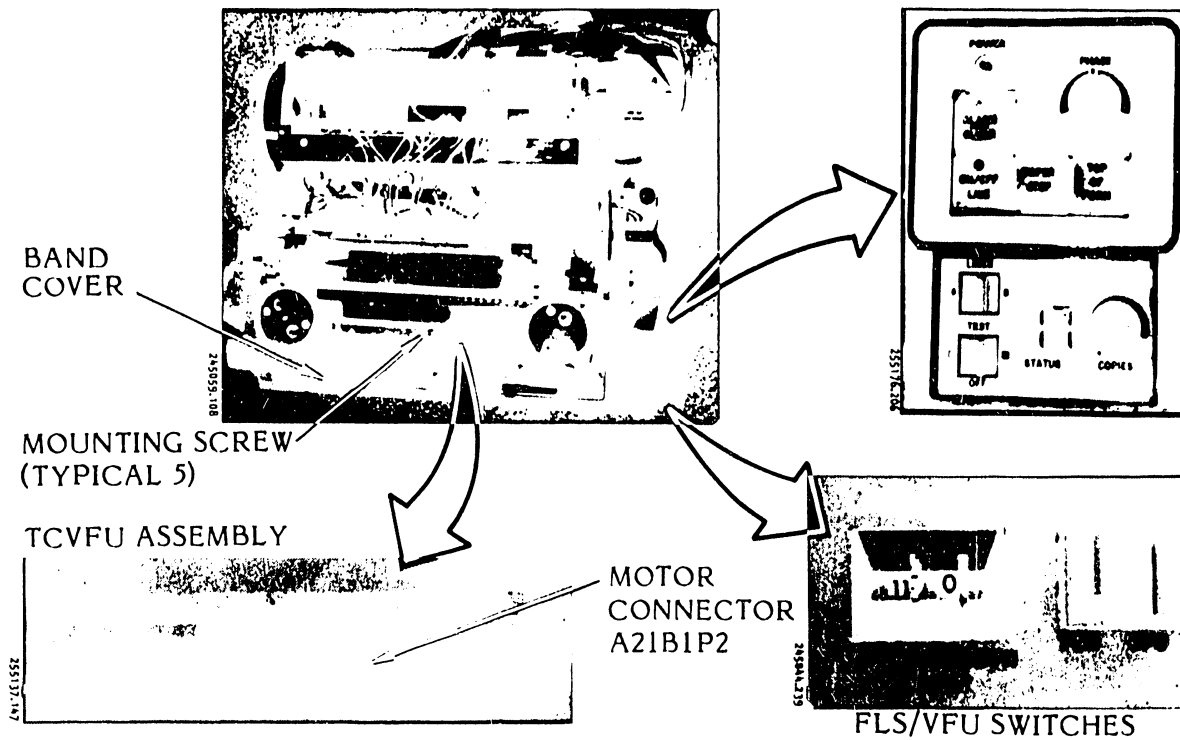

Figure 3-27. TCVFU Components Test
3.5.12 TCVFU Assembly Components Test (Figures 3-27 through 3-30)
- d. Set the control panel FLS/VFU switch to VFU (figure 3-27).